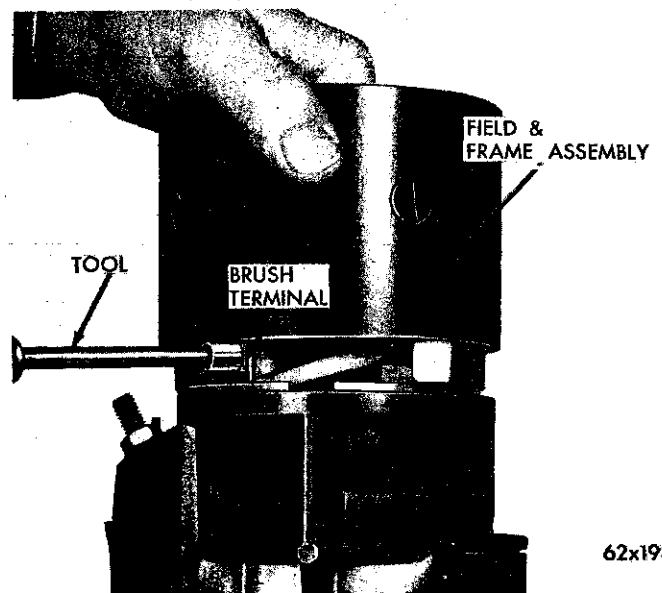

Fig. 2—Removing or Installing the Brush Terminal Screw
and the solder connection of the shunt field at the brush terminal. Place two wood blocks between the starter frame and starter gear housing (Fig. 2) to facilitate removal of the terminal screw and the unsoldering of the shunt field wire at the brush terminal.
(4) Support the brush terminal by placing a finger behind the terminal and remove the terminal screw (Fig. 2).